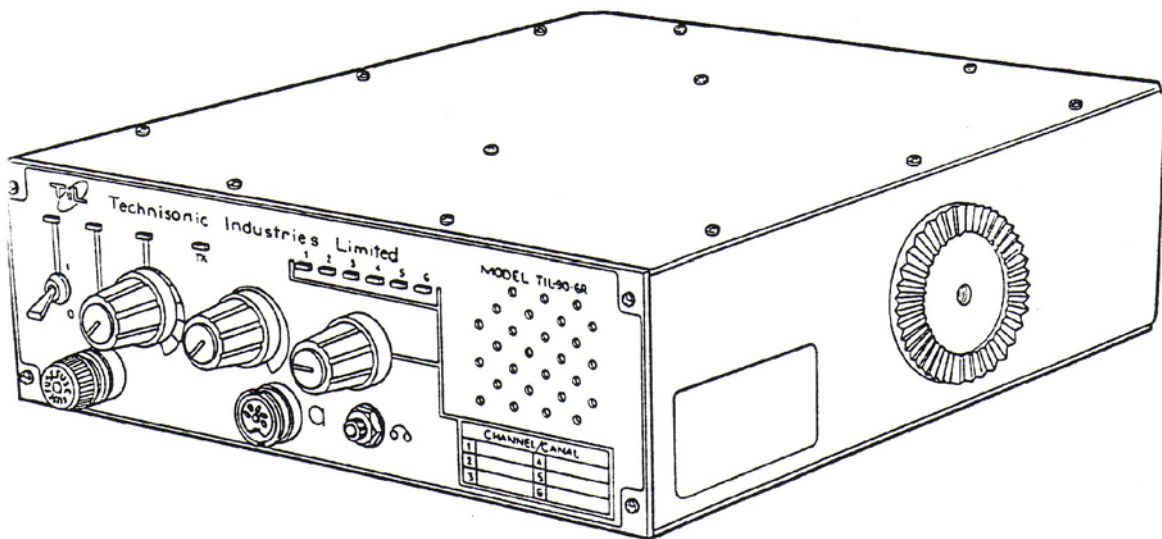

Figure 1-1 Transceiver - General View
- (1) Intended Purpose and Use - The system is intended for installation in airport service vehicles, such as cars, snowploughs, and grass cutters, to allow ground control over such vehicles while they are negotiating aircraft manoeuvring areas.
- (2) Brief Description of System Units - VHF/AM Mobile Transceiver System 860605 (TMS-100) consists of the following items:
- (a) Transceiver Model 90-6R, Part Number 861605-2, Series 1, is a low power VHF/AM transceiver which operates in simplex on six pre-programmable frequency synthesized channels, with 25kHz channel spacing in the frequency range of 117.975MHz to 138.000MHz. The transceiver operates from a 12 volts dc nominal vehicle power supply (negative ground only). An optional extra cost dc to dc convertor P/N 863118-1 can be installed in the transceiver to allow operation from an input supply from 10.8 to 30.0 Vdc. A general view of the transceiver is given in Figure 1-1. The transceiver is normally located under the dashboard of a vehicle using a mounting bracket and mounting hardware.